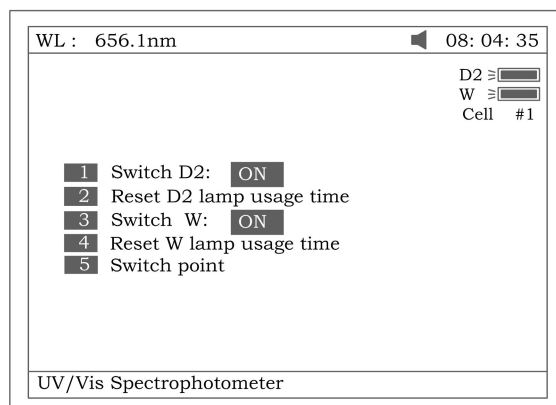
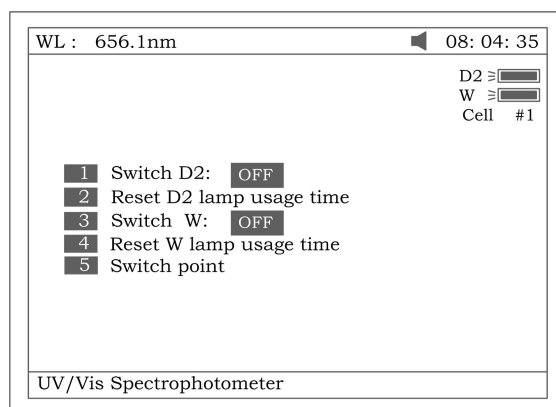
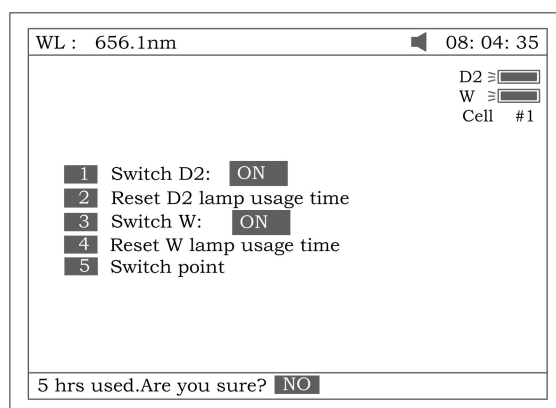

Fig 79
Fig 80
Fig 81
Press **【3】** to set lamp (Fig 79). **【ESC/STOP】** to exit.
1. Press **【1】** in Fig 79 to switch on/off D2. Fig 80.
2. Press **【2】** in Fig 79 to reset usage time of D2(Fig 81). Press **【^】** or **【V】** to select “Yes” or “No”, and then press **【ENTER】**.
3. Press **【3】** in Fig 79 to switch on/off W. The indication is also on the top
4. Press **【4】** in Fig 79 to reset usage of W (Fig 83). Press **【^】** or **【V】** to select “Yes” or “No”, and then press **【ENTER】**.
5. Press **【5】** in Fig 79 to set the switch usage point of D2 and W lamp (Fig 84).